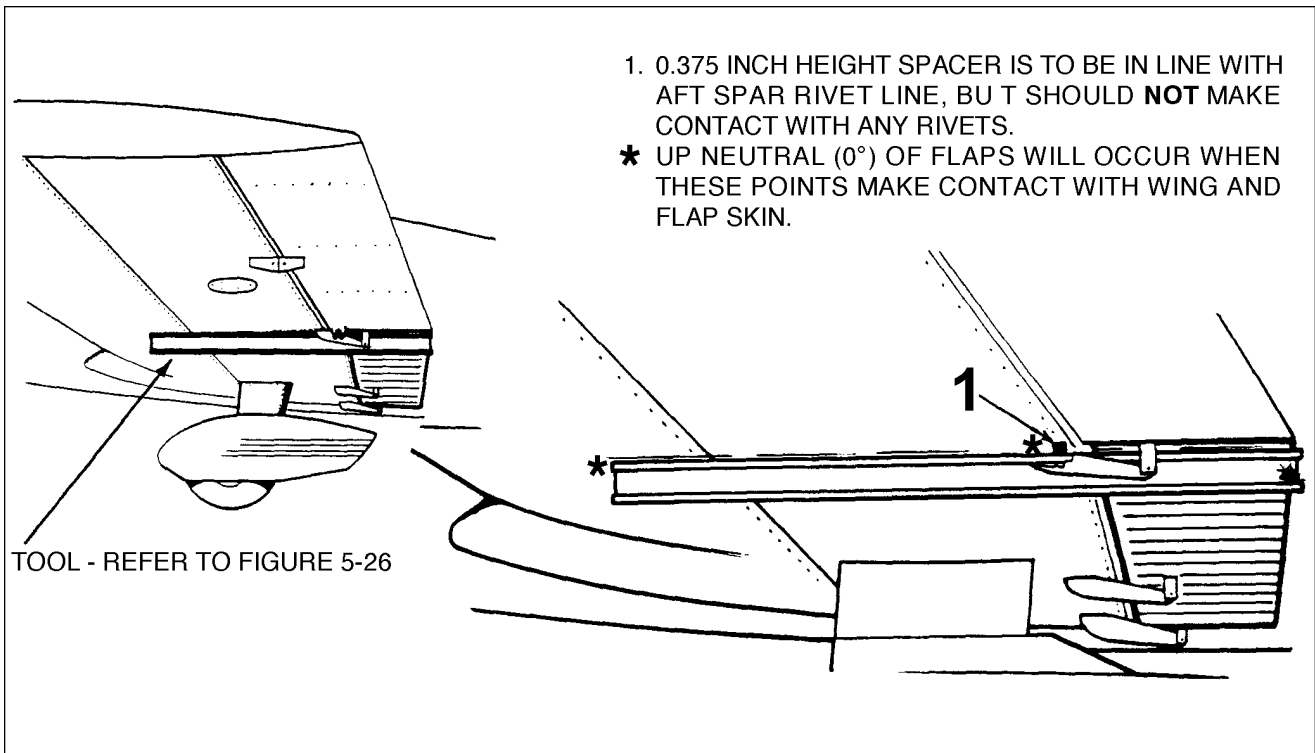

Figure 5-23. Flap Rigging Tool
d. To check up (0° position) of the flaps, place a flap rigging tool as shown in Figure 5-23 against the underside of the wing and flap as close as possible to the outboard end of the flap without contacting any rivets. The tool must be positioned parallel with the wing ribs with the aft end of the tool even with the trailing edge of the flap. (This tool may be fabricated from dimensions given in Figure 5-26.)